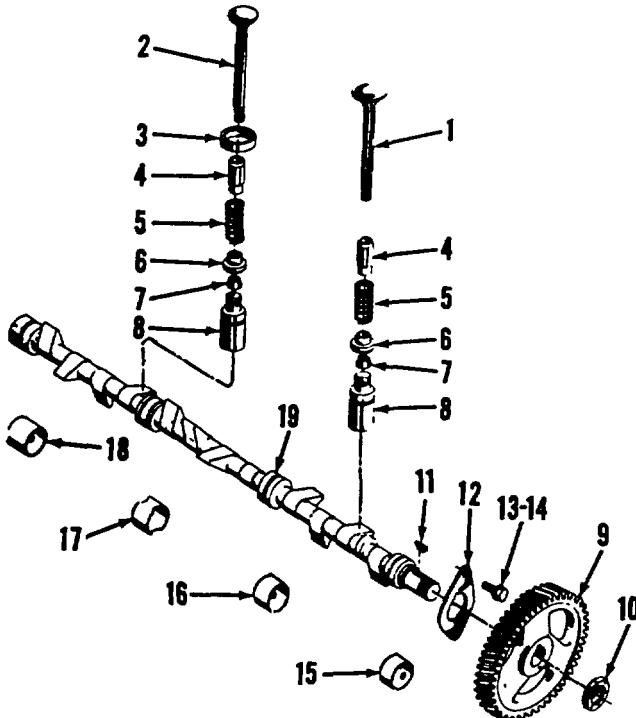
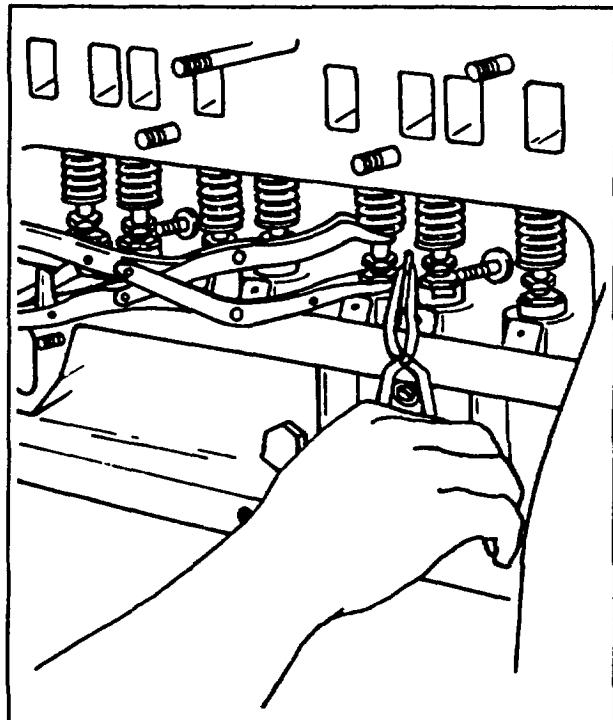

Figure 4-23. Engine Valve Train and Camshaft Group, Exploded View
Figure 4-24. Removing and Replacing Valve Retainer Locks
3. Rotate crankshaft until lowest point of any lifter travel is reached. Using valve spring compressor, compress valve spring (5, figure 4-23). Remove valve locks (7). Release and remove valve spring compressor. See figure 4-24. Remove remaining locks in a similar manner.
4. Lift exhaust valves (2) and intake valves (1) out through top of cylinder block and tag them for installation in original positions.
1. Remove nut (10, figure 4-23) and governor race. Remove gear (9) with a gear puller; then remove key (11).
2. Remove two screws (13), washers (14), and thrust plate (12); then withdraw camshaft (19) from block.